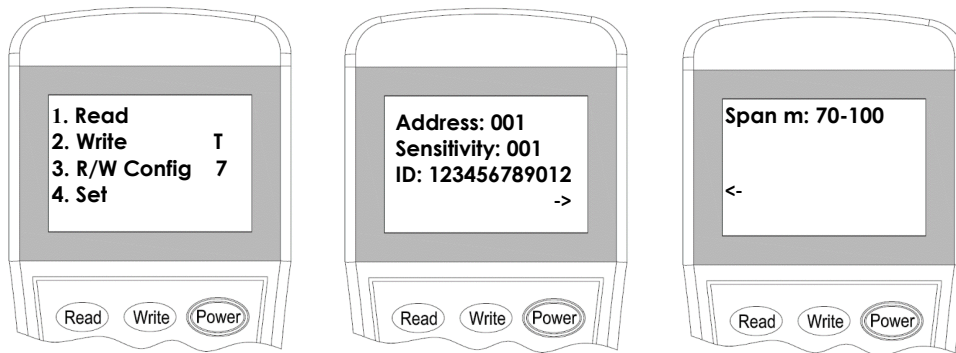

Figure 9
5. Press button "**Exit**" to clear and exit. (Figure 9)
- a. Using supplied Opaque/Translucent materials, cover-on half of the beam detector using the translucent portion of the material. With less than 30 seconds the Red LED [Fire] will turn on steady, indicating Fire signal. [The fire alarm relay [HJ1] and HJ2 will latch to normally close]. Refer to Figure 9.